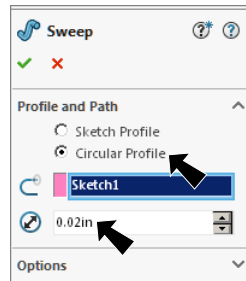

Fig. 10
Step 4. In the Swept Boss/Base Property Manager: under Profile and Path, **Fig. 10** select **Circular Profile Path**